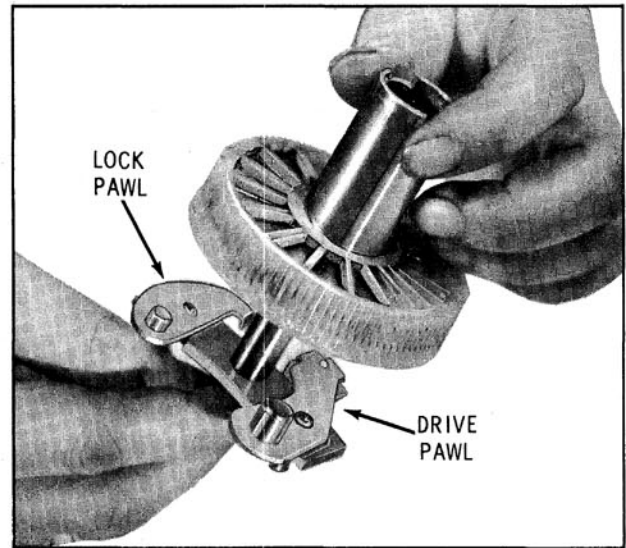

Fig. 13-143 Assembling Pawls to Shaft
2. Assemble lock and drive pawls to the shaft and drive plate assembly. (Fig. 13-143)